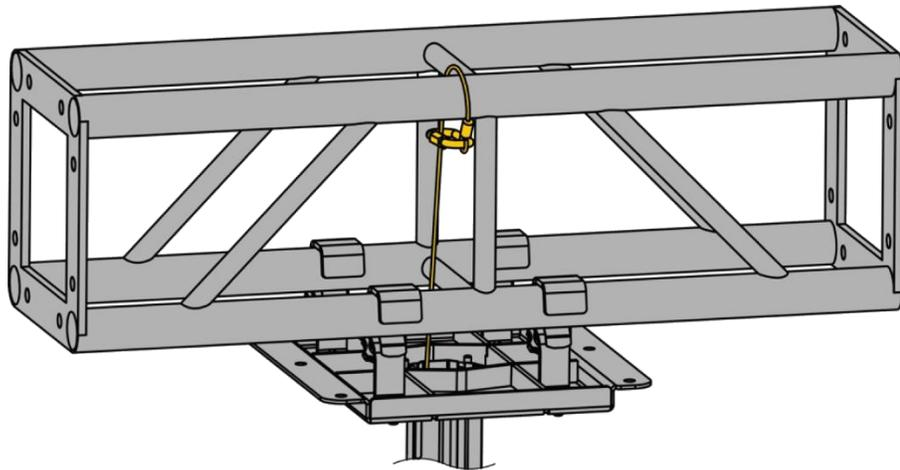

Figure 88
13B] For truss mount: Use a quick link to secure one end of the safety cable ⑫ around the truss. Conduit the other end of the safety cable ⑫ into the upper tube ② and lower tube ③, as shown in **Figure 88**.